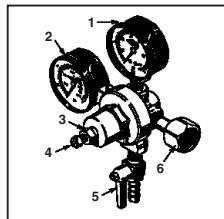

Fig. 9
There are two pressure gauges on the CO₂ regulator. **See Fig. 9:** The upper gauge #1 monitors "LOW" (internal keg) pressure and must be adjusted to the correct operating pressure of 10-12psi/lbs. The lower gauge #2 monitors "HIGH" (CO₂ cylinder) pressure and is not adjustable. The high pressure gauge also acts as a fuel gauge to let you know when the CO₂ cylinder needs re-filling.
- Using an adjustable wrench, release the adjustment lock nut # 3. **See Fig. 9**
- Using a flat screwdriver, turn the regulator adjustment screw (# 4 in Fig. 9): A clockwise rotation of the regulator adjustment screw will increase low pressure, a counter clockwise rotation of the adjustment regulator adjustment screw will decrease low pressure